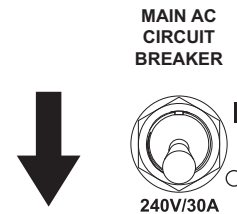

Figure 3-25. Main AC Circuit Breaker OFF (O)
3. See Figure 3-25. Switch main AC circuit breaker to OFF (O).